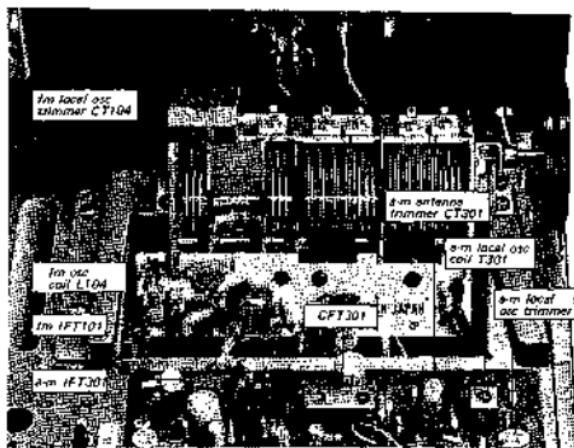

Fig. 3-5. Adjusting parts location
3. Turn the core of transformer IFT101 (See Fig. 3-5) with the alignment tool to obtain maximum output.
Note: The IF transformers (CFT201, see Fig. 3-5 and IFT301) in the a-m amplifier circuit are adjusted at the factory, so very little adjustment is necessary in the field even if replacing any of these IF transformers.